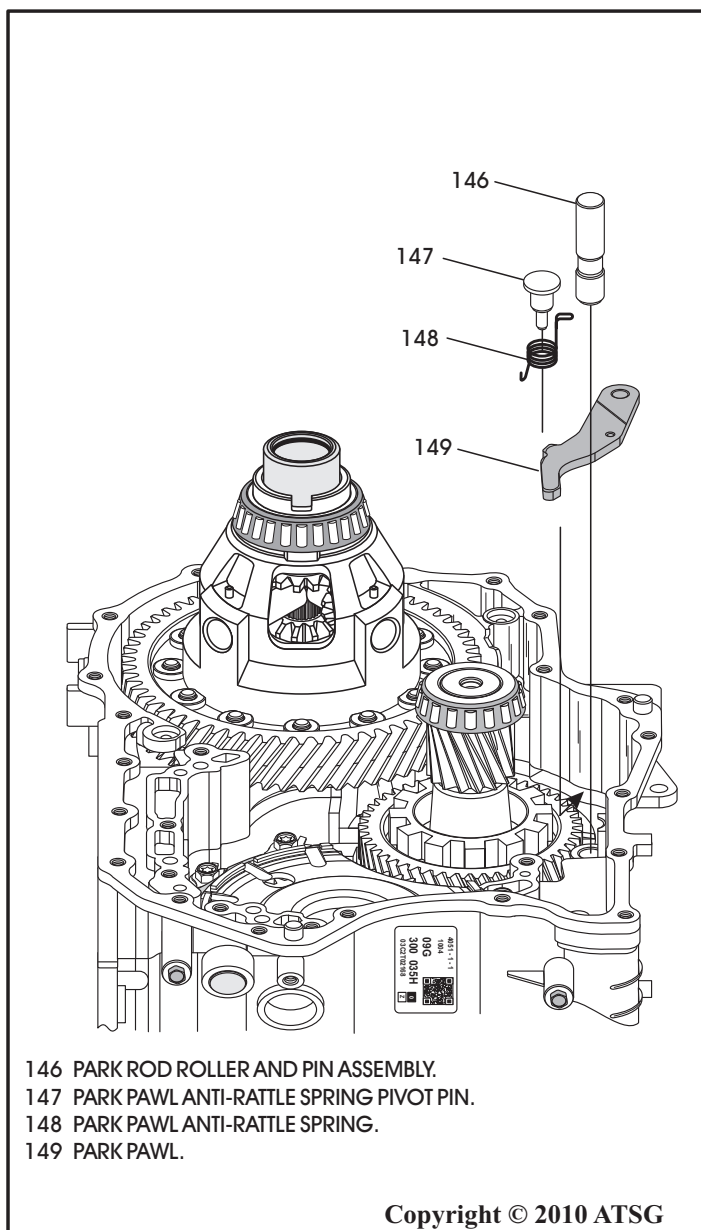

Figure 174
15. Install the parking pawl into the slot in transaxle case, as shown in Figure 174 and 175.
19. Install the park rod roller and pin assembly into case bore, as shown in Figure 174.
22. Install the park pawl anti-rattle pivot pin and spring, as shown in Figure 174.